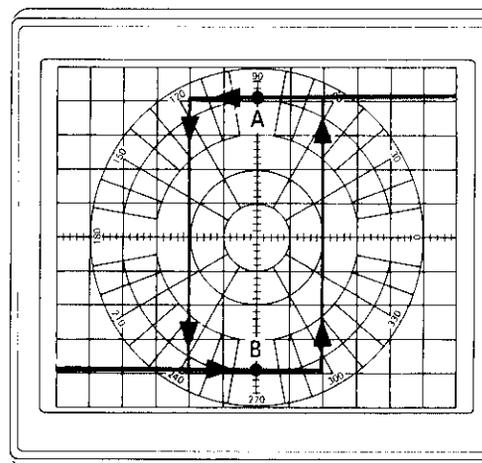

Figure A4-16. Hysteresis Loop of Phase Trace
- d. Set SCAN TIME SEC to MANUAL. Sweep through the transition in both forward and reverse direction using the Manual sweep control. Note the hysteresis loop as shown in Figure A4-16.
- e. Adjust both CW FREQUENCY and $\pm\Delta F$ FREQUENCY to make the hysteresis loop six divisions wide and centered on the vertical center line of CRT. (See Figure A4-16.)
- f. Press Channel 1 DISPLAY MKR. Center trace dot on the vertical center line at point "A" on Figure A4-16 trace. The marker readout should be +180 degrees ± 2 degrees.
- g. Center trace dot on the vertical center line at point "B" on Figure A4-16 trace. The Channel 1 marker readout should be -180 degrees ± 2 degrees.